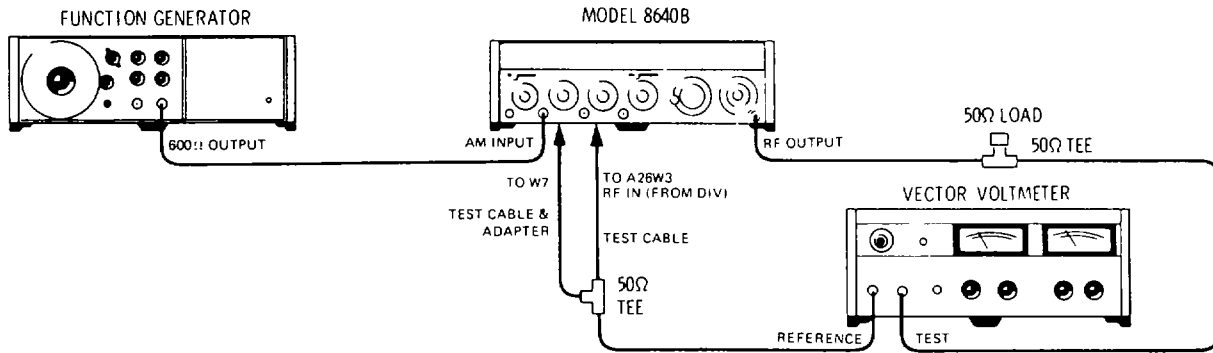

Figure 4-21. Peak Incidental Phase Modulation Test Setup
- 2. Finish connecting equipment as shown in Figure 4-21 after setting Signal Generator's controls as follows: